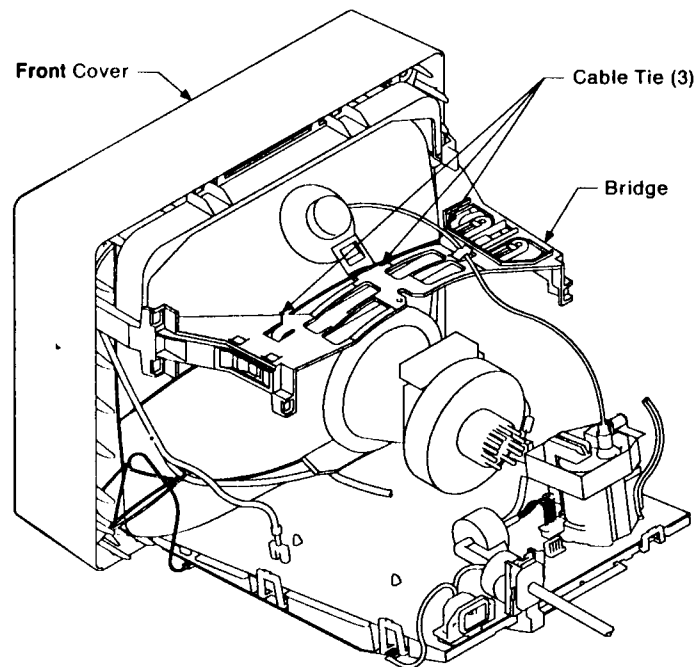

Figure 8. ITC cable ties
- Use the cable ties supplied with the ITC to secure the insulated wire link to the bridge, Figure 8 on page 64 shows this.